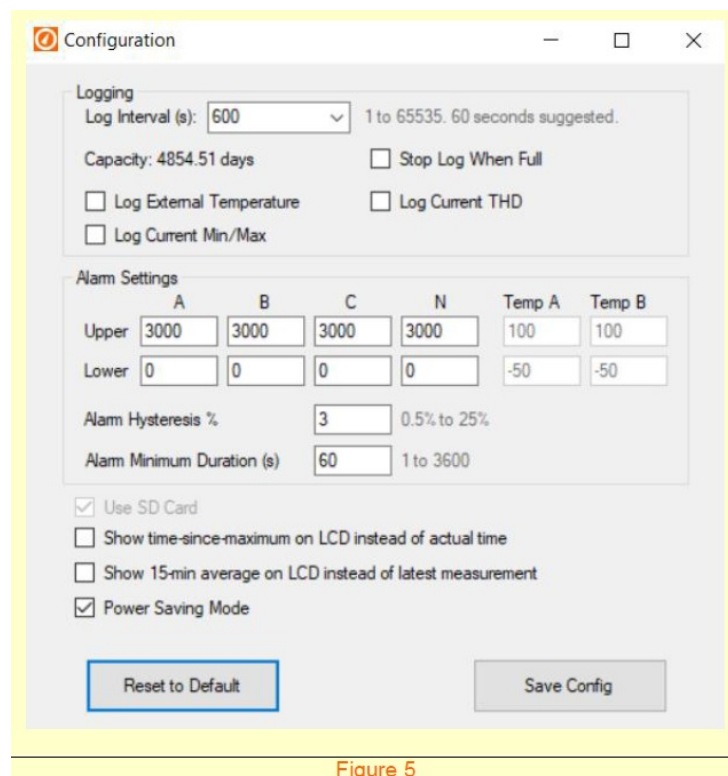

Figure 5
4. Within the “Status” window, select the “Configuration” option to access the configuration settings (Figure 5 in the user manual).
3. The user has various options within this page, such as: 'Configuration'; 'Download'; and 'Upgrade Firmware'. By selecting the 'Configuration' option, the user will be prompted with a window as shown in Figure 5.
4. The Mirrin's default configuration is shown in Figure 5 and is sufficient for the majority of applications. However, the user should review the configuration to ensure that the correct settings are selected for their specific application.